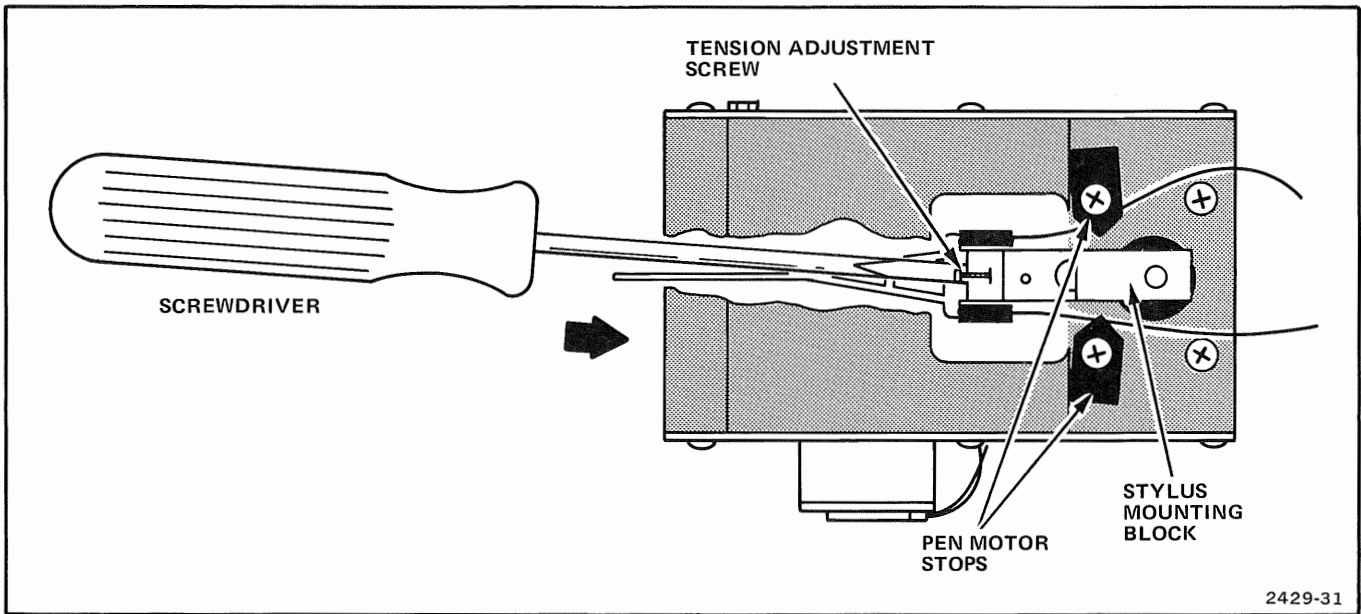
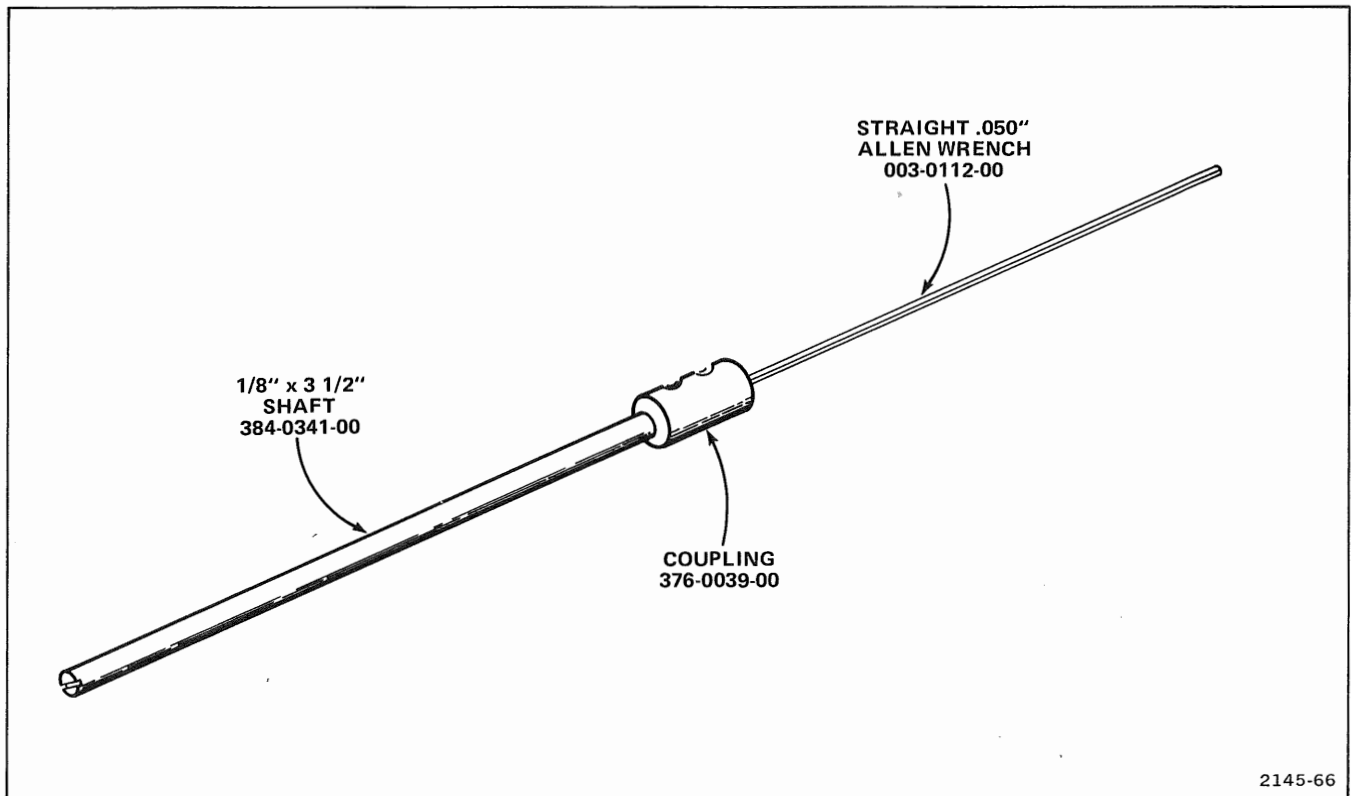

Figure 4-10. Stylus replacement.
Figure 4-11. Stylus tension adjusting tool.
1. Set pen motor in place on Recorder Module and secure with four screws. The two stylus stops mount under the heads of the two screws nearest the front of the module. See Figure 4-10 for approximate positioning of the stylus stops.
6. Pull out on stylus to release it from the stylus mounting block. See Figure 4-10.
8. Place a screwdriver tip at the location shown in Figure 4-10 and press stylus all the way onto the mounting block.
4. Check that a line is written on recorder paper. If not, adjust tension adjusting screw (Fig. 1-10) using adjusting tool shown in Figure 4-11. Rotate the tension adjusting screw about 360° clockwise. Press SAMPLE/MARK pushbutton and check that a line is written.
4. When Recorder stops, use adjusting tool shown in Figure 4-11 to adjust tension adjusting screw (Fig. 4-10) so that stylus just barely doesn't write. Stylus tension increases